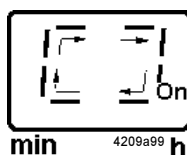

Fig. 19 - Green rotating display, operating time
- is initiated via the button (fig. 21). Press the button for more than 2 seconds. Then, the rotating segment (fig. 19) becomes visible on the key pad.